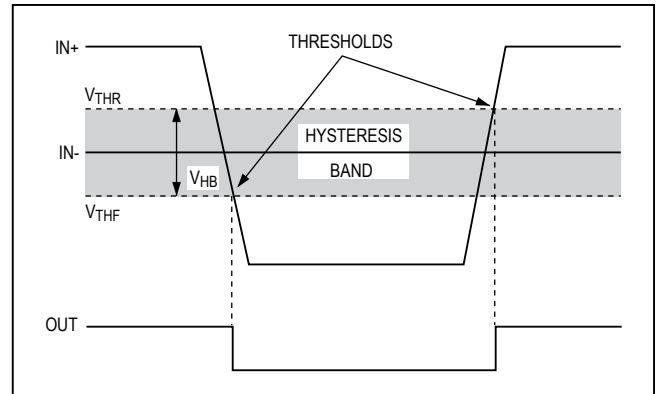

Figure 1. Threshold Hysteresis Band
**Note 3:** The hysteresis-related trip points are defined as the edges of the hysteresis band, measured with respect to the center of the band (i.e.,  $V_{OS}$ ) (Figure 1).
The hysteresis in a comparator creates two trip points: one for the rising input voltage ( $V_{THR}$ ) and one for the falling input voltage ( $V_{THF}$ ) (Figure 1). The difference between the trip points is the hysteresis ( $V_{HB}$ ). When the comparator’s input voltages are equal, the hysteresis effectively causes one comparator input to move quickly past the other, thus taking the input out of the region where oscillation occurs. Figure 1 illustrates the case in which the comparator’s inverting input has a fixed voltage applied, and the noninverting input is varied. If the inputs were reversed, the figure would be the same, except with an inverted output.